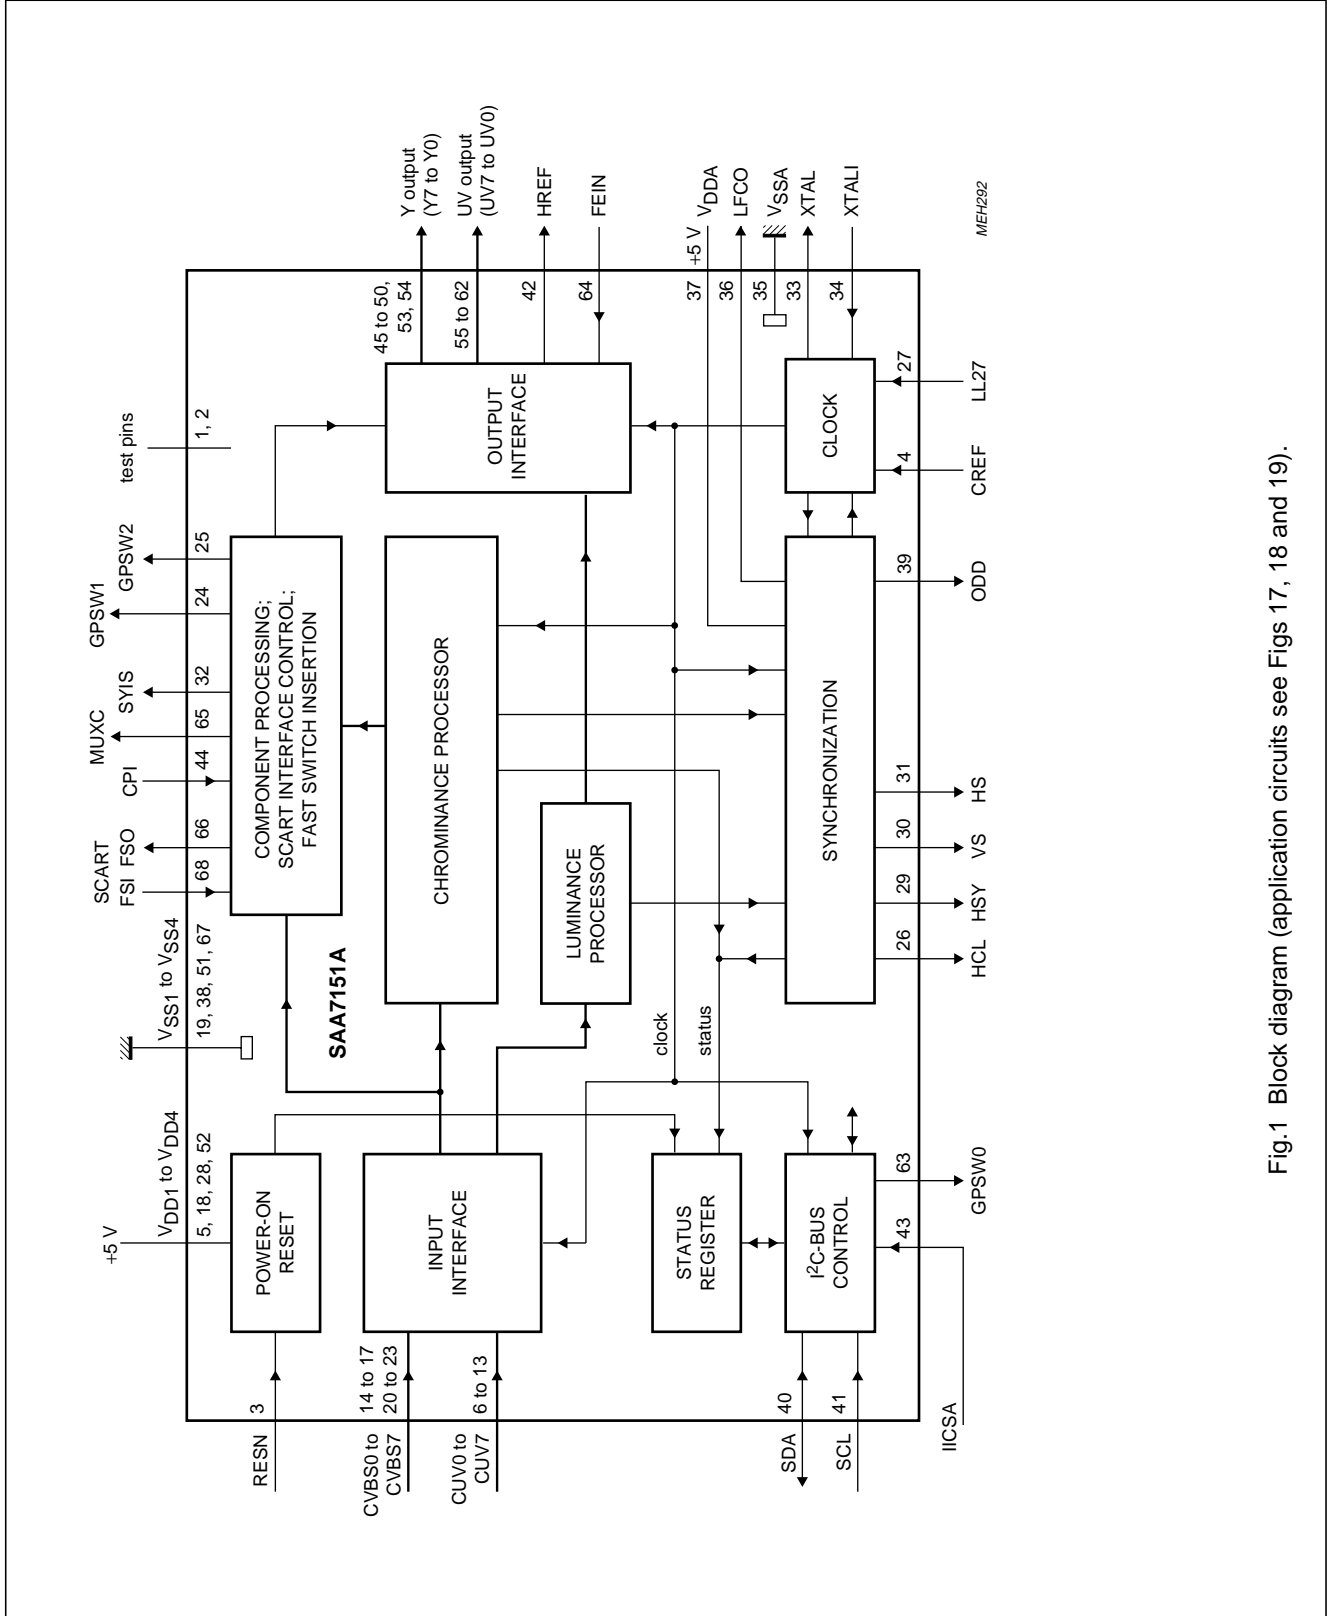
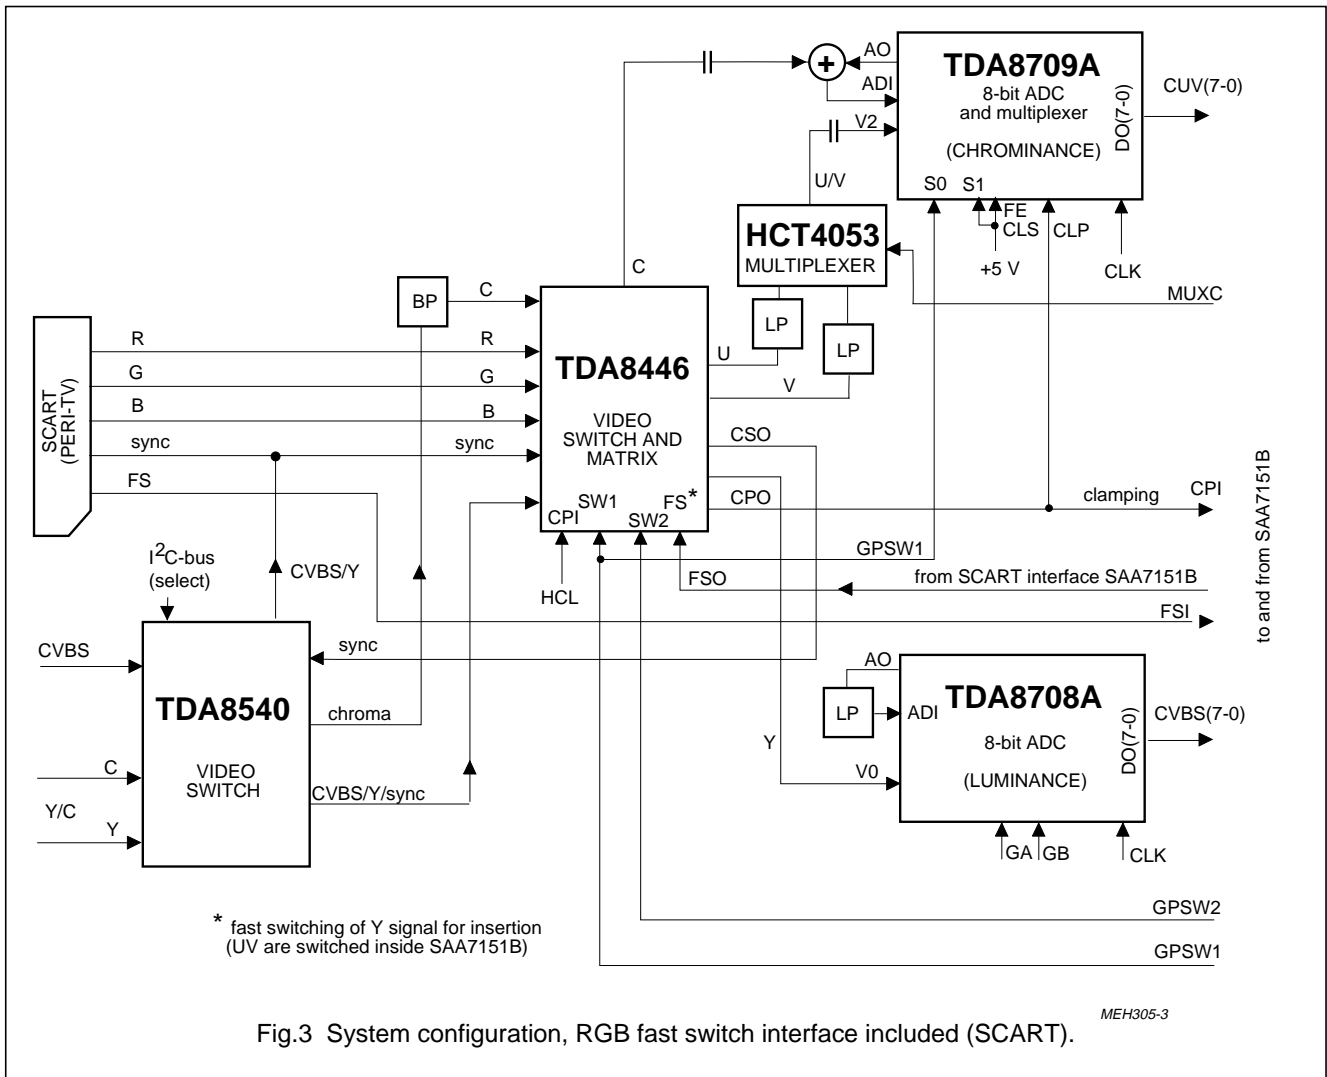

Fig.1 Block diagram (application circuits see Figs 17, 18 and 19).
Fig.3 System configuration, RGB fast switch interface included (SCART).
The SAA7151B system processes digital TV signals with line-locked clock in PAL, SECAM and NTSC standards (CVBS or S-Video) as well as RGB signals coming from a SCART/peri-TV connector. The different source signals are switched, if necessary matrixed and converted (Fig.3 and Table 1).
The 8-bit multiplexed colour-difference input signal (signal CUV, Fig.1, out of matrixed RGB in Fig.3) is fed via the input interface to a chrominance stop filter (UV signal only can pass through; Figures 22 to 24). Here it is clamped and fed to the offset compensation which can be enabled or disabled via the I2C-bus.
The control signals for the front end (Figures 3 and 20) MUXC, status bits FSST1, FSST0 (outputs GPSW2, GPSW1) and FSO are generated by the SAA7151B.
**Table 1** SCART interface control (Fig.3)